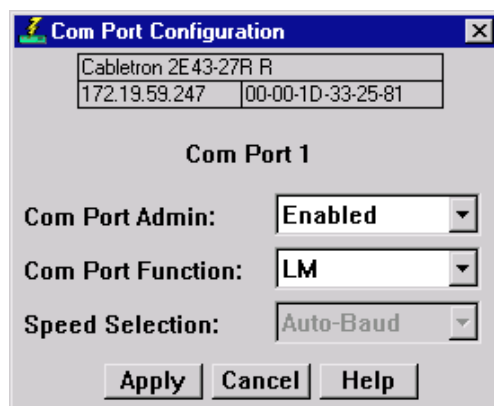

Figure 2-17. The Com Port Configuration Window
You can use the COM Port Configuration window (Figure 2-17) to specify the functions that will be performed by the RS232 COM port on the SmartSwitch 2000 front panel. To do so:
2. Click on **Com Port Configuration**, and then select **Port 1**, and release. The Com Port Configuration window, Figure 2-17, will appear.